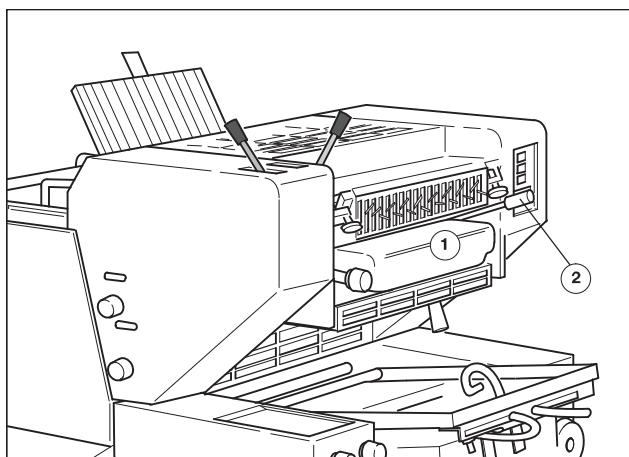

Fig. 70 Remove the dampening solution pan and inking roller washup device.
2. Remove the dampening solution container (Fig. 70/1).
5. Press lever (Fig. 70/2) downwards up to stop.